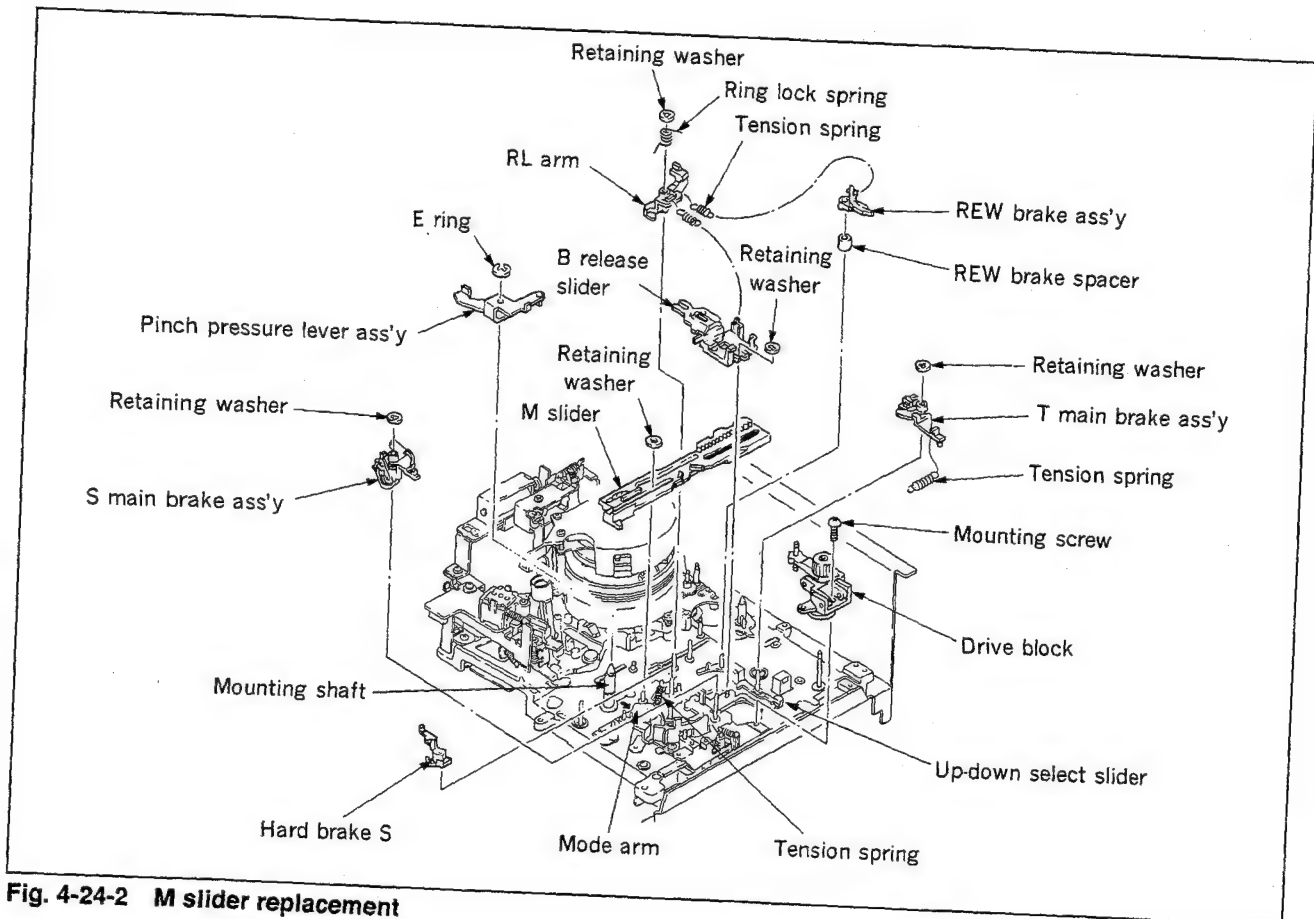

Fig. 4-24-2 M slider replacement
Remove mounting screw shown in Fig.4-24-2, then remove drive block.
16. REW brake ass'y removal (Fig.4-24-2)
17. B release slider removal (Fig.4-24-2)
18. RL arm removal (Fig.4-24-2)
- 2) Push the mode arm as indicated in Fig.4-24-2 in the direction of the arrow, then refer to Fig.B to install M slider while being careful of the other parts above and beneath it, and fix it with retaining washer.